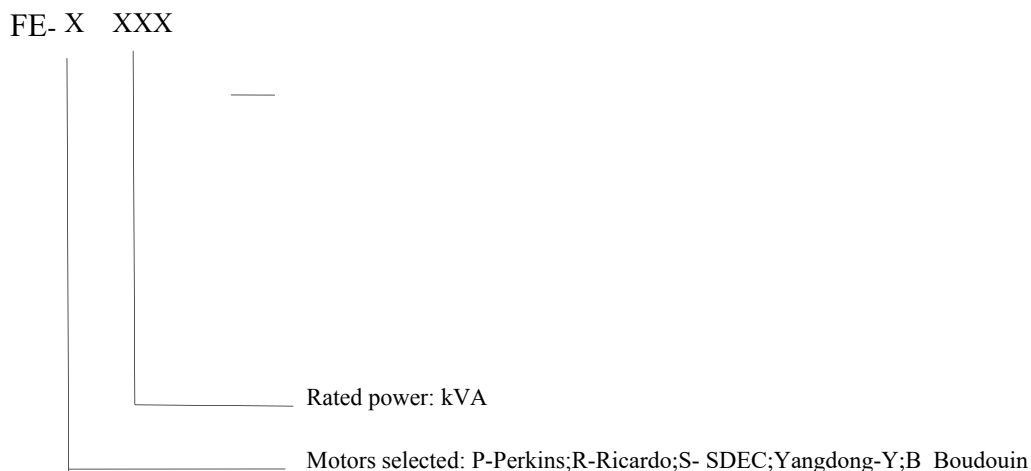

Fig.1-23
1.4 Naming for generator set model (as shown in Fig.1-23)